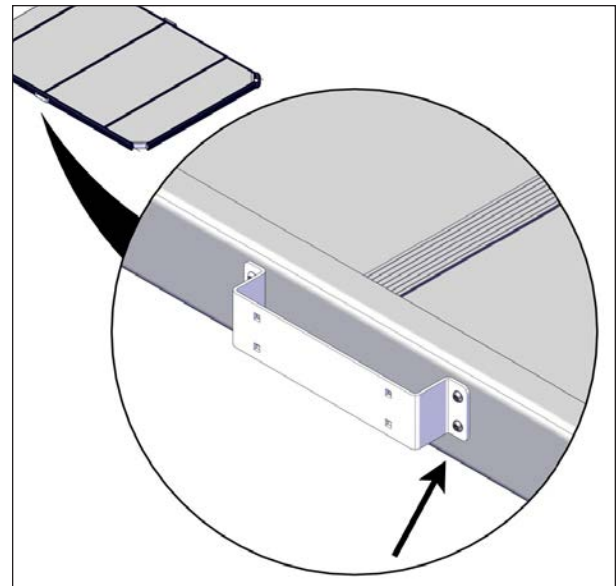

FIGURE 63: SUPPORT BRACKET SCREW TIGHTENING
- When the previous step is completed, use a 5/32" (4 mm) allen key or Allen head wrench hex screwdriver bit to tighten the 1/4-20 X 1" round head screws on each sleeve mounting bracket and secure them well, see Figure 63. Those two screws need to be well tightened to keep the I-Beam seals compressed properly.